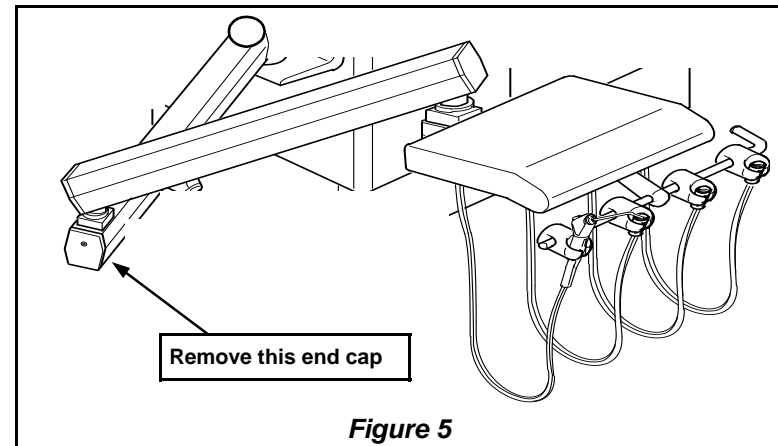

Figure 5
- B. 22" post and top mounted arm (*Figure 5*).